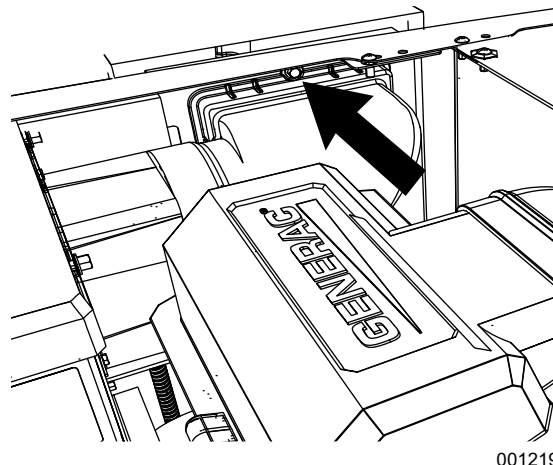

Figure 4-5. Removing the AVR Filter Screw
1. See Figure 4-5. Remove screw to release AVR filter housing from back panel.
2. See "A" in Figure 4-5. Remove screw to release AVR filter housing from back panel.
2. See Figure 4-5. Remove screw to release AVR filter housing from back panel. Remove AVR filter housing.